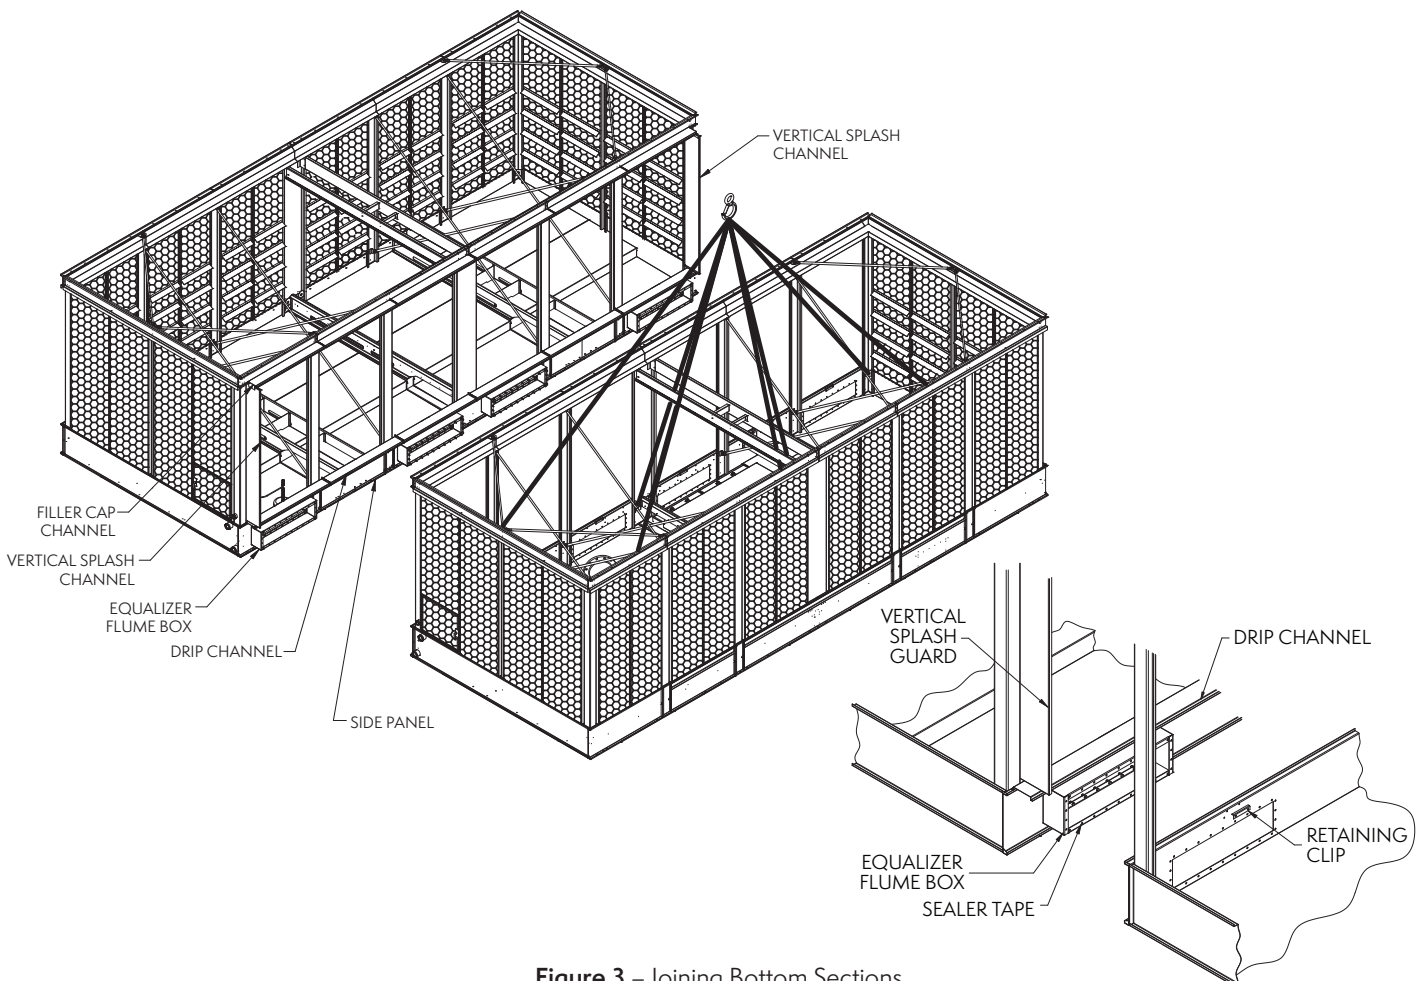

Figure 3 – Joining Bottom Sections
6. Rig the second basin adjacent to the equalizer flume on the steel support as shown in **Figure 3**.
3. Add sealer tape to bottom of vertical splash guard. Place the vertical splash guard in the bend of the vertical supports. On galvanized units, attach the vertical splash guard using 5/16" (8 mm) self-tapping screws. On stainless steel units, attach the vertical splash guards using 5/16" (8 mm) stainless steel nuts and bolts. (See **Figure 3**)
4. Once the bottom of the vertical splash guard has been attached to the drip channel, place the filler cap channel in the upper flanges of the basin as shown in **Figure 3**. Attach to vertical splash guards using 5/16" (8 mm) tappers (for galvanized units) or stainless steel nuts and bolts (for stainless steel units).